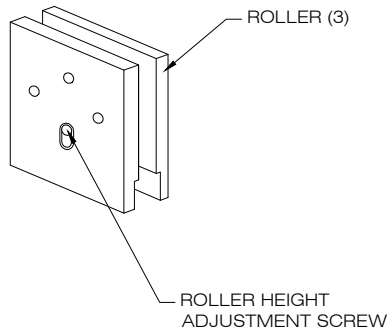

FIG. 1
1. Loosen the roller height adjustment screw to allow for movement. [See Fig.1]